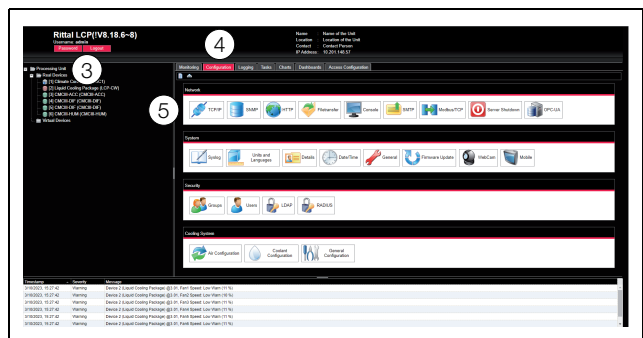

Fig. 97: Adjusting the TCP/IP settings
The overview window for the device will appear (fig. 97).
- In the left-hand section of the overview window (navigation area), click on the **Processing Unit** entry (fig. 97, item 3) and in the right-hand section (configuration area), click on the **Configuration** tab (fig. 97, item 4).
- In the group box Network, click on the TCP/IP button (fig. 97, item 5).